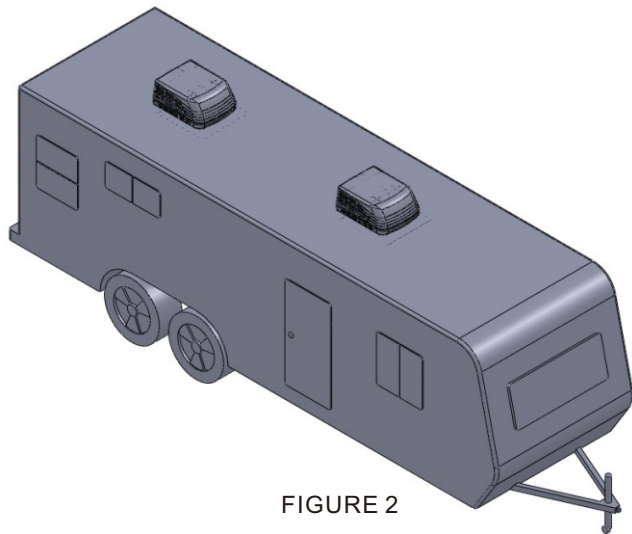

FIGURE 2
2. For two unit installation: Install one air conditioner / heat pump 1/3 distance and the other air conditioner / heat pump 2/3's from front of RV and centered from side to side. See FIG.2.